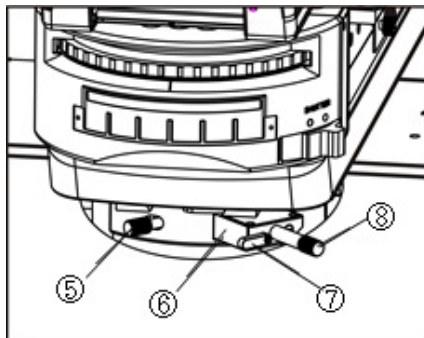

Fig. 31
1. Rotate the brightfield and darkfield rotation dial ① to the BF state.
3. Insert the analyzer ② and polarizer ④ into the insertion slot
4. Rotate the analyzer rotation dial ③ until the darkest field of view is obtained
5. Loosen the screw ⑤ on the nosepiece, pull out the standard idle slider. Then insert the DIC slider ⑥ in the insertion slot and clamp by tightening the screw ⑤. (Fig. 31)
- ★ Set the position of DIC slider ⑥ for required.